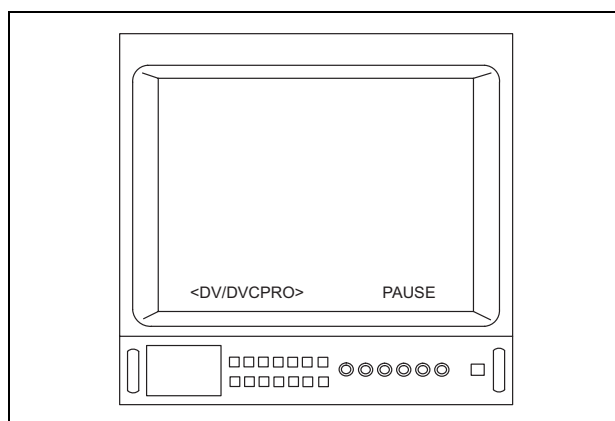

Figure 5.93
3. To pause while recording, press the remote switch on the camera head or videoscope again. The menu shown in Figure 5.93 is displayed.
3. To pause while recording, press the "F5" key again. The menu shown in Figure 5.93 is displayed.